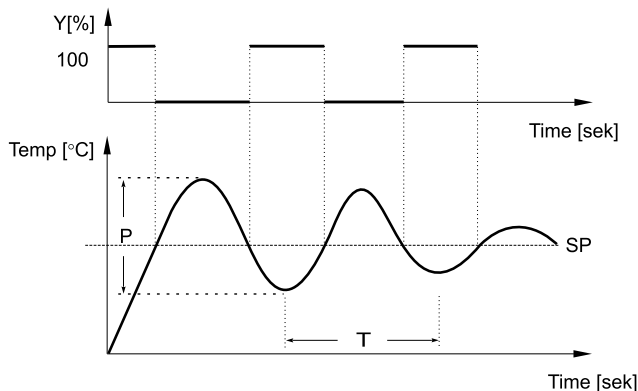

Fig.12. Choice of settings through the oscillation method.
- OCY means, that PID parameters will be calculated on the base of oscillations around the set point (see fig.12). The oscillation method must be chosen only when overshots over the set point do not cause damages of the charge and object.